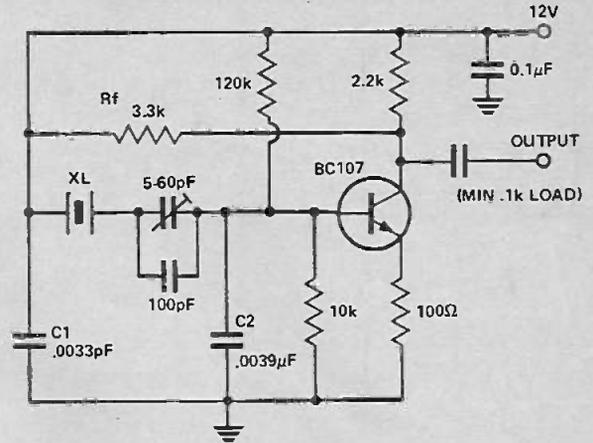
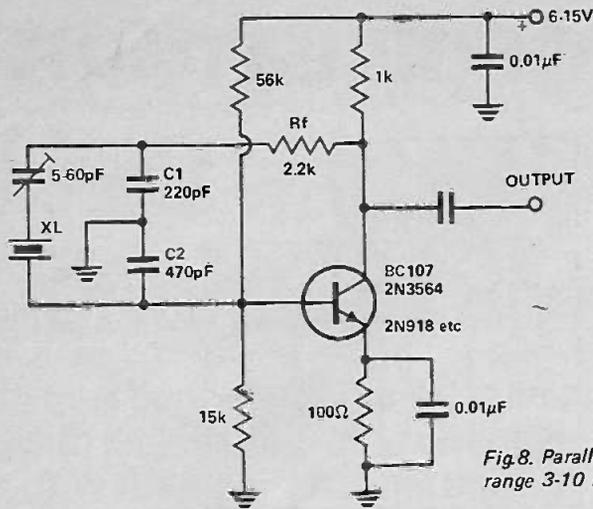

Fig. 6. Parallel mode L.F. oscillator.
Fig. 8. Parallel oscillator for the range 3-10 MHz.
The circuit in Fig. 6 is also described by Lane (3) and can be recognised as a modified form of the Colpitts oscillator, with the addition of resistor Rf to control feedback (it works the same way as Eno's). Capacitors C1 and C2 should be reduced by preferred values as the frequency is increased. At 500 kHz, values for C1 and C2 should be around 100 pF and 1500 pF respectively.
A useful oscillator for the range 3 to 10 MHz that does not require a tuned circuit is given in Fig. 8 (a). It is, of course, the same circuit as Fig. 6. The circuit can be used down to 1 MHz if C_1 and C_2 are increased to 470 pF and 820 pF respectively. It can be used up to 15 MHz if C_1 and C_2 are reduced to 120 pF and 330 pF. Respectively. This circuit is recommended for non-critical applications where high harmonic output is wanted, or not a consideration.
This circuit (Fig. 8) can also be turned into a very effective VXO. A small inductance is placed in series